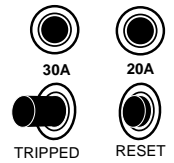

FIGURE 14 RECEPTACLE THERMAL BREAKERS
The receptacle circuit breakers protect the receptacles. Overloading the generator will trip the thermal circuit breaker. If an individual thermal breaker selector switch (C) moves to the tripped position as shown in figure 14, disconnect the electrical load from the receptacle. Let the circuit breaker cool down. Push the individual thermal breaker selector switch (C) to reset.